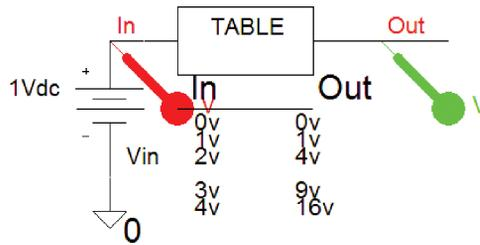

FIGURE 7.41: The Table part
- (4) Obtain the characteristics for the SCR and TRIAC devices. Download a model for the unijunction transistor (UJT). This is a three-terminal device with different characteristics to the conventional bipolar transistor. Construct a UJT circuit symbol, junction schematic, and plot the output characteristics showing the negative resistance region.
- (5) Investigate the **TABLE** part in Fig. 7.41. From the **Analysis Setup/DC Sweep/Sweep Variable /Voltage Source, Name = vin**. The sweep parameters: **Start Value: 0, End Value 10V, and Increment 1**.